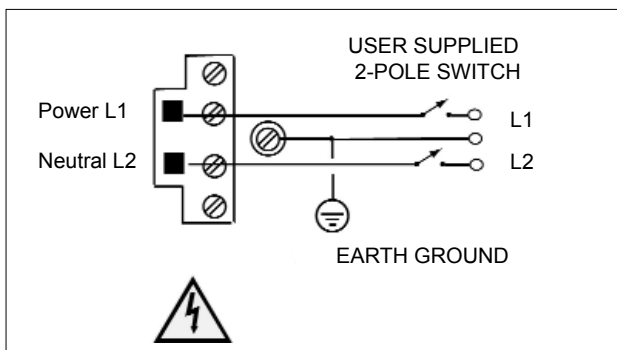
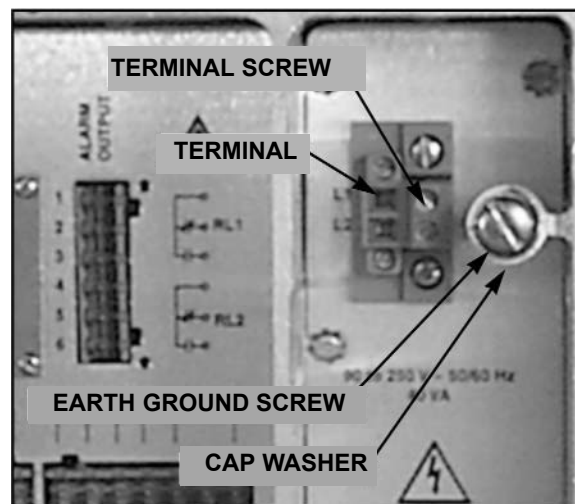

FIG. 3.15 - POWER WIRING
FIG. 3.16 - POWER CONNECTOR
Connect the earth ground wire to the Earth Ground Screw, as shown in the Fig. 3.16. The ground wire must be at least as large as the L1/L2 wires, but never smaller than 14 AWG, see section 9.4 for mm wire sizes.
You are now ready to wire in the main power. The Power Wiring is shown in Fig. 3.15. The Power Connector is shown in Fig. 3.16.
- 3a. For easy access to the terminals, you may remove the two wire connector by loosening two screws above and below Terminal L1/ Terminal L2 screws as shown in Fig. 3.15 and 3.16. Then, pull the two wire connector free of the rear panel.